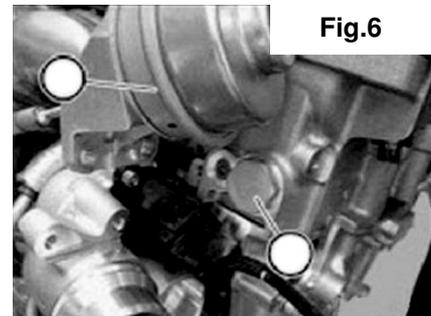

Fig.6
2. Steuerkettenspanner-Verschraubung lösen (Abb.6).
2. Remove the timing chain tensioner assembly (Fig.6).
4. Fit the tool (A) and screw in the adjusting screw until it comes into contact with the timing chain tensioner rail. Do not over tighten the adjusting screw. Pre load the timing chain by tightening the adjuster on the pre-tensioning tool to required torque.